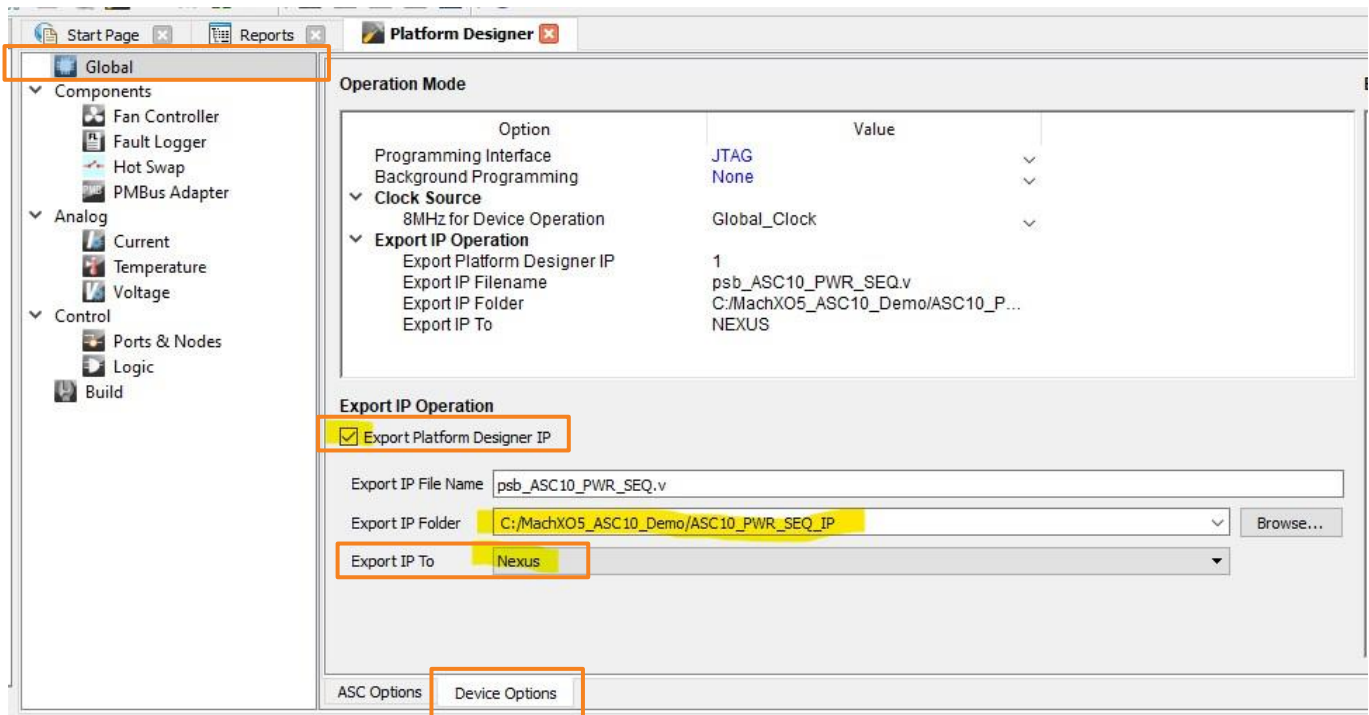

Figure 3.28. Lattice Diamond – Global Device Options
- Click the **Device Options** of the **Global** view, and check the **Export Platform Designer IP** box, as shown in Figure 3.28. Note that the Clock Source is set to Global_Clock to support connection to the PLL 8 Mhz output when using the Lattice LSE synthesis tool.